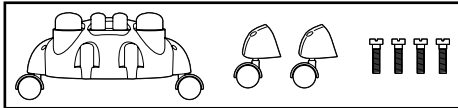

FIGURE 1
1. You will find two caster assemblies, one dolly assembly and four screws with your wet/dry vacuum. **(FIGURE 1)**